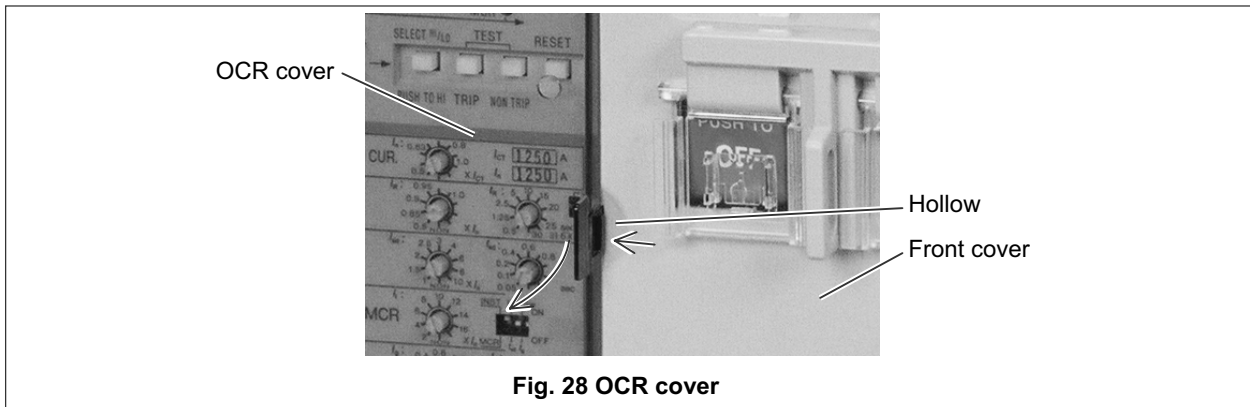

Fig. 28 OCR cover
- 3) Push the right end of the OCR cover to the left at the hollow on the front cover to unlatch and open the OCR cover. See Fig. 28. If the OCR cover is padlocked, first remove the padlock.